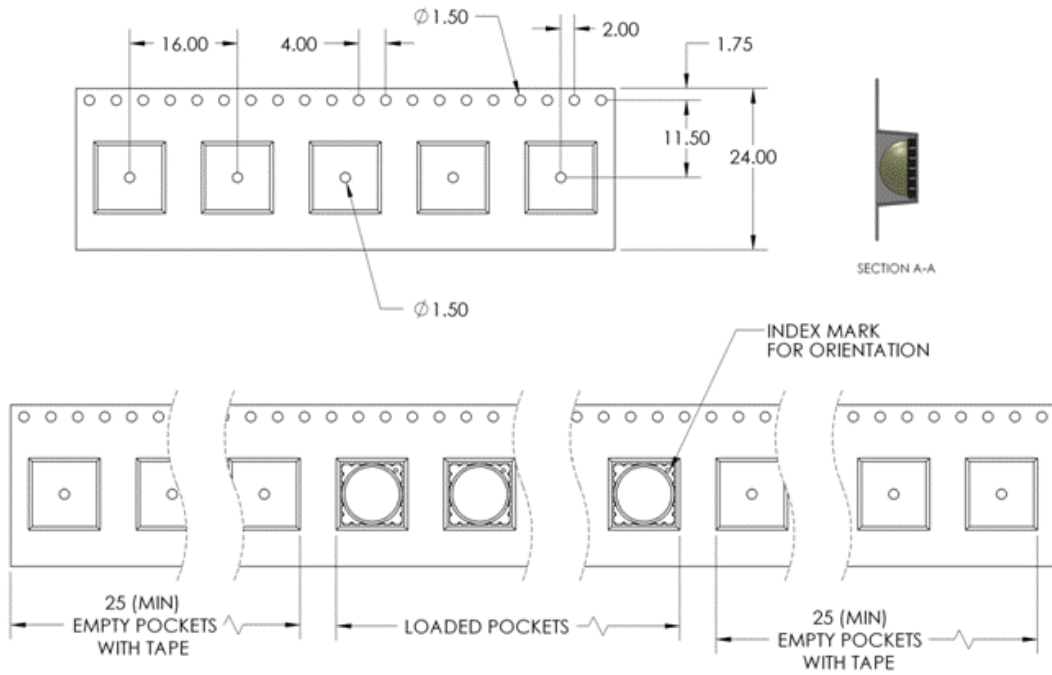

Figure 10: Emitter carrier tape specifications (mm)
- Maximum DC forward current (per die) is determined by the overall thermal resistance and ambient temperature. Follow the curves in Figure 10 for current derating.